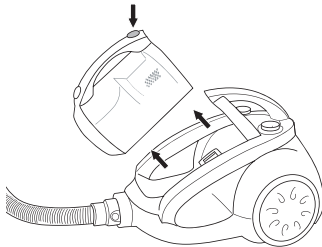

Figure 10 Removing waste from the dust receptacle
3. Remove the dust receptacle by pressing the release button on the dust receptacle (see Figure 10) and pulling on the receptacle, and hold it above a waste-bin.